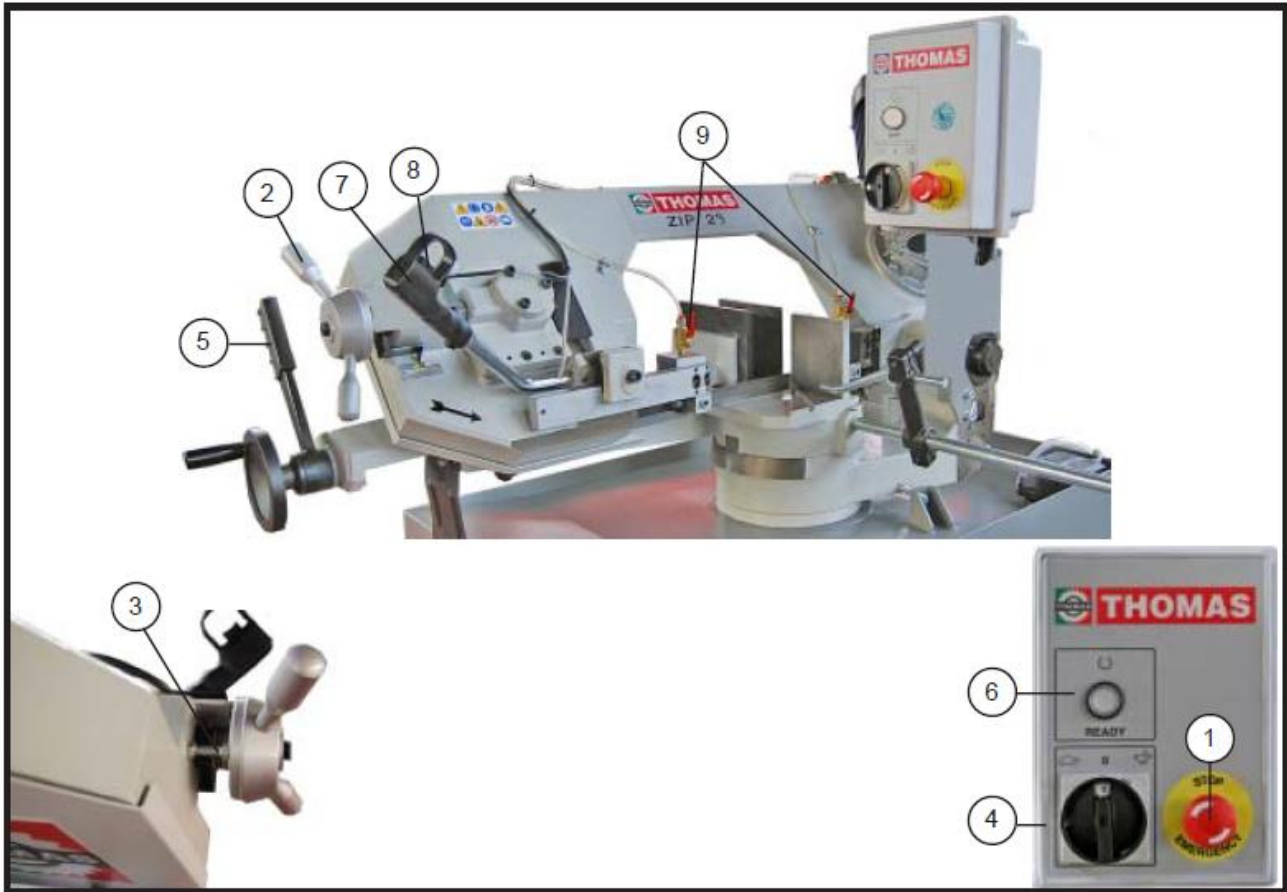

Fig. 12-11
- a) Make sure that the emergency push-button (1 fig. 12-11) is released; if it is still engaged the machine will not start.
- b) Turn the blade tension hand wheel (2 fig. 12-11) as instructed on Paragraph 11.3.1 BLADE TENSION. Select blade speed on the commutator (4 fig. 12-11):
- c) Load the stock material and approach the vice jaw to 3 - 4 mm from the material to cut. Pull the quick lever (5 fig. 12-11) to lock the material to cut in the vice firmly.
- d) Press the luminous push-button (6 fig. 12-11) to energize the machine.
- e) Grab the lever (7 fig. 12-11) and press the trigger switch (8 fig. 12-11).: make sure that the blade turns in the sense shown by the arrow (1 fig. 11-11). If it does not, swap the cables from the power supply.
- e) Open the coolant liquid taps (9 fig. 12-11) and make sure the liquid flows through the blade-guide blocks on the material to cut. Coolant liquid is an emulsion of water and 5% cutting oil.
When you stop using the machine, let the sawframe raise to the top position and release blade tension by turning the hand wheel (2 fig. 12-11) anti-clockwise to avoid loss of blade flexibility.